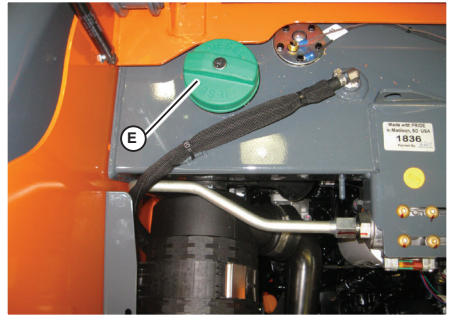

Fig. 67 - Fuel Filler Cap
2. Unlock fuel cap (E, Fig. 67) using the ignition key and remove the fuel cap from the fuel filler neck.